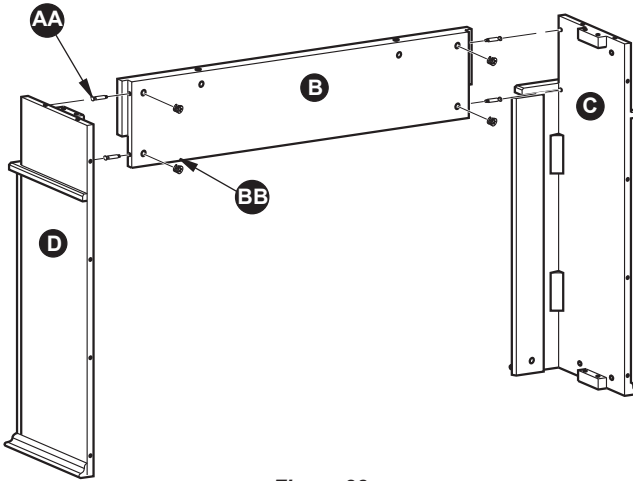

Figure 28
1. Insert 4 Cam Locks (BB) into Panel (B). Screw 4 Cam Dowels (AA) into the Left Side Panel (C) and the Right Side Panel (D). Attach Panel (B) into assembled frame (C, D) by tightening the Cam Locks (BB) as shown in Figure 28.